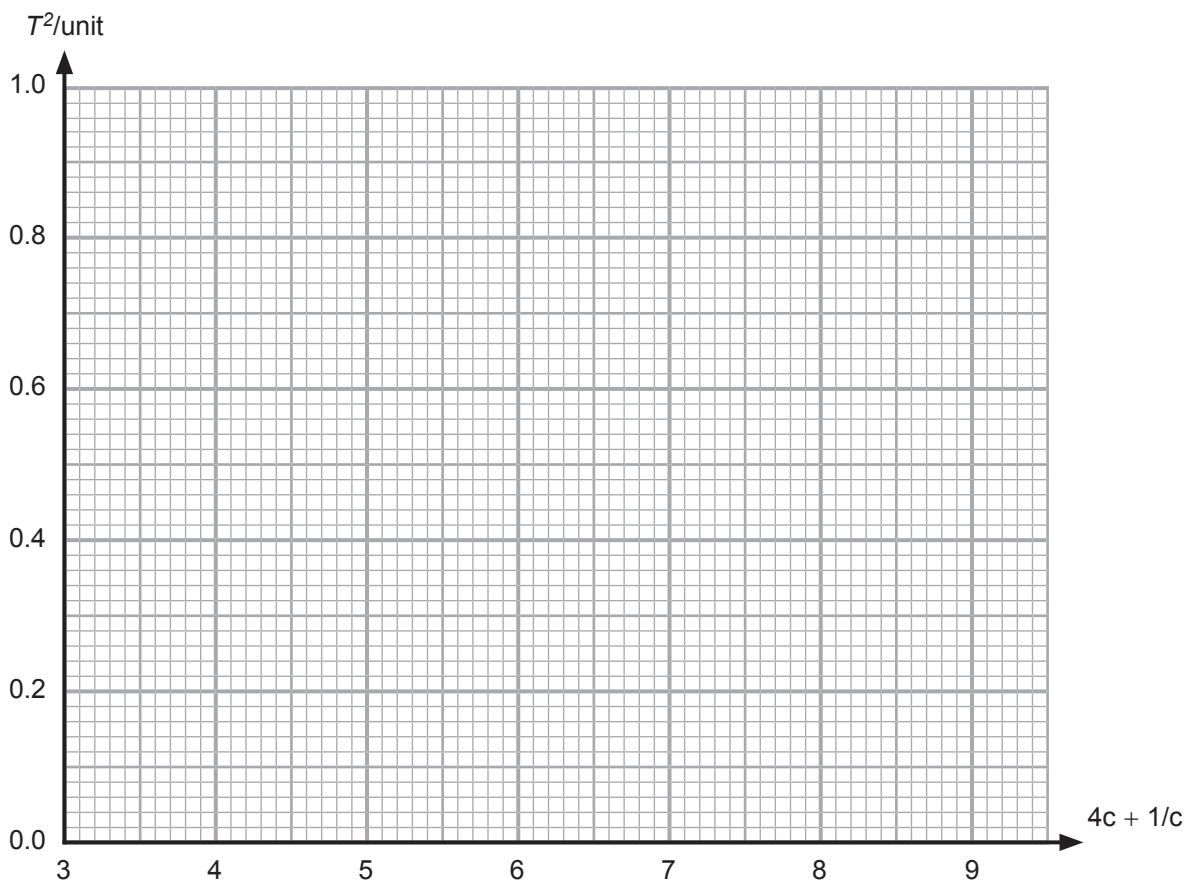

Fig. 2.3
- (ii) Plot the points and draw the best-fit straight line on **Fig. 2.3**. [2]
Use this information and the graph drawn in **Fig. 2.3** to determine a value for the acceleration of free fall, g .